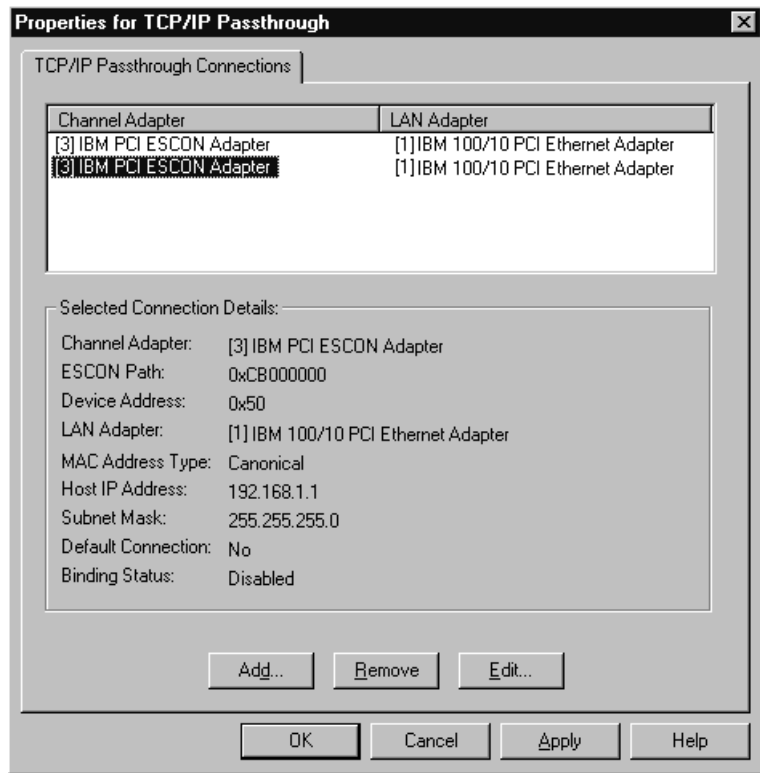

Figure 9-19. Properties Display Confirms Edits
2. Once you have changed the fields to your satisfaction click **OK** to end the edit. The TCP/IP Passthru Properties screen will be re-displayed (Figure 9-19). Confirm your change on the right side of the display.